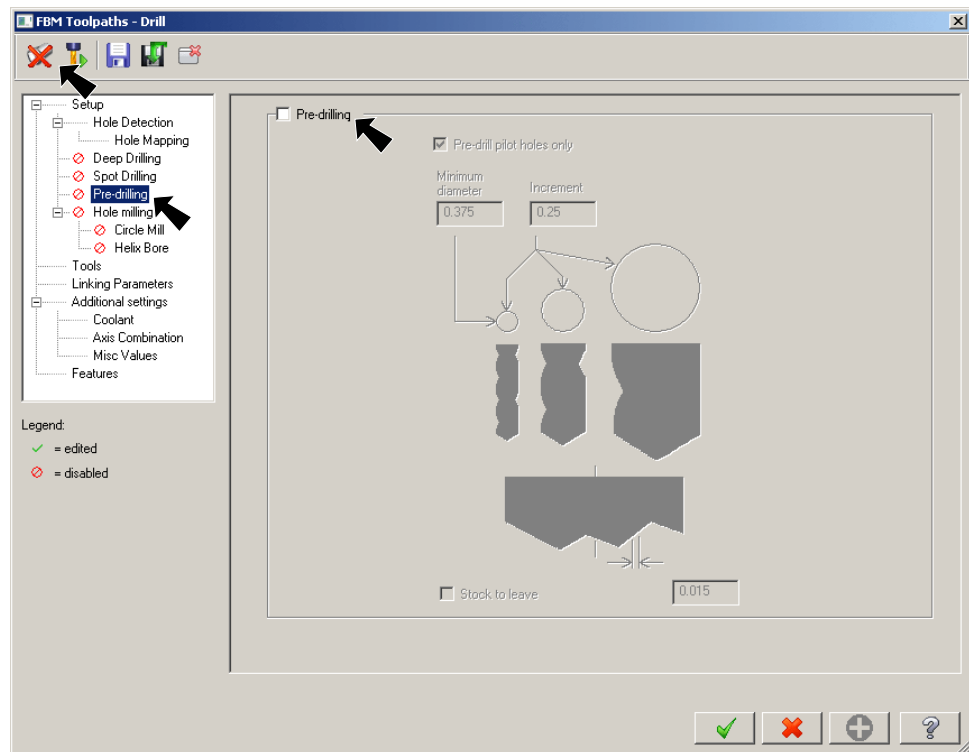

Fig. 103
Step 5. Select **Pre-drilling** from the tree control and uncheck **Pre-drilling** check box, **Fig. 103**.
Step 6. Click **Detect** button  at the top of the dialog box to find the holes, **Fig. 103**.